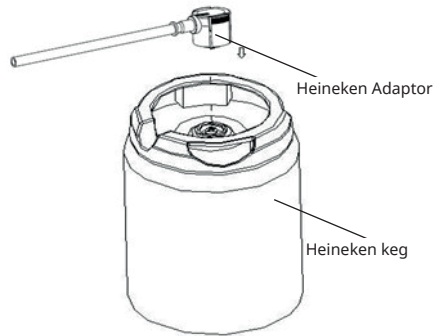
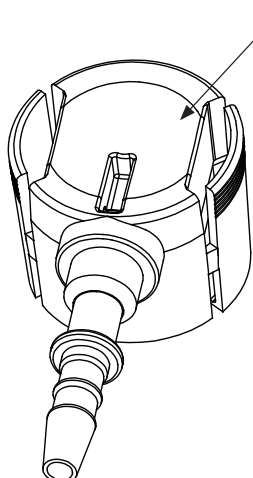
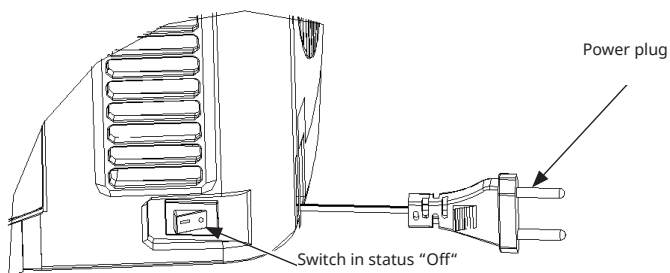

Figure 5
Figure 6
Figure 8
1. Remove the adapter from the Heineken keg and then recycle and scrap the adapter in accordance with the relevant environmental legislation (as shown in Figure 5).
2. Then install the adapter (i.e. Heineken spout) (as shown in Figure 5 and Figure 6) of the beer cooler according to the method on the keg description (as shown in Figure 8).
5. Turn the power switch to the "1" position to turn the cooler on. (While the "0" position is to switch it off) (as shown in Figure 8).